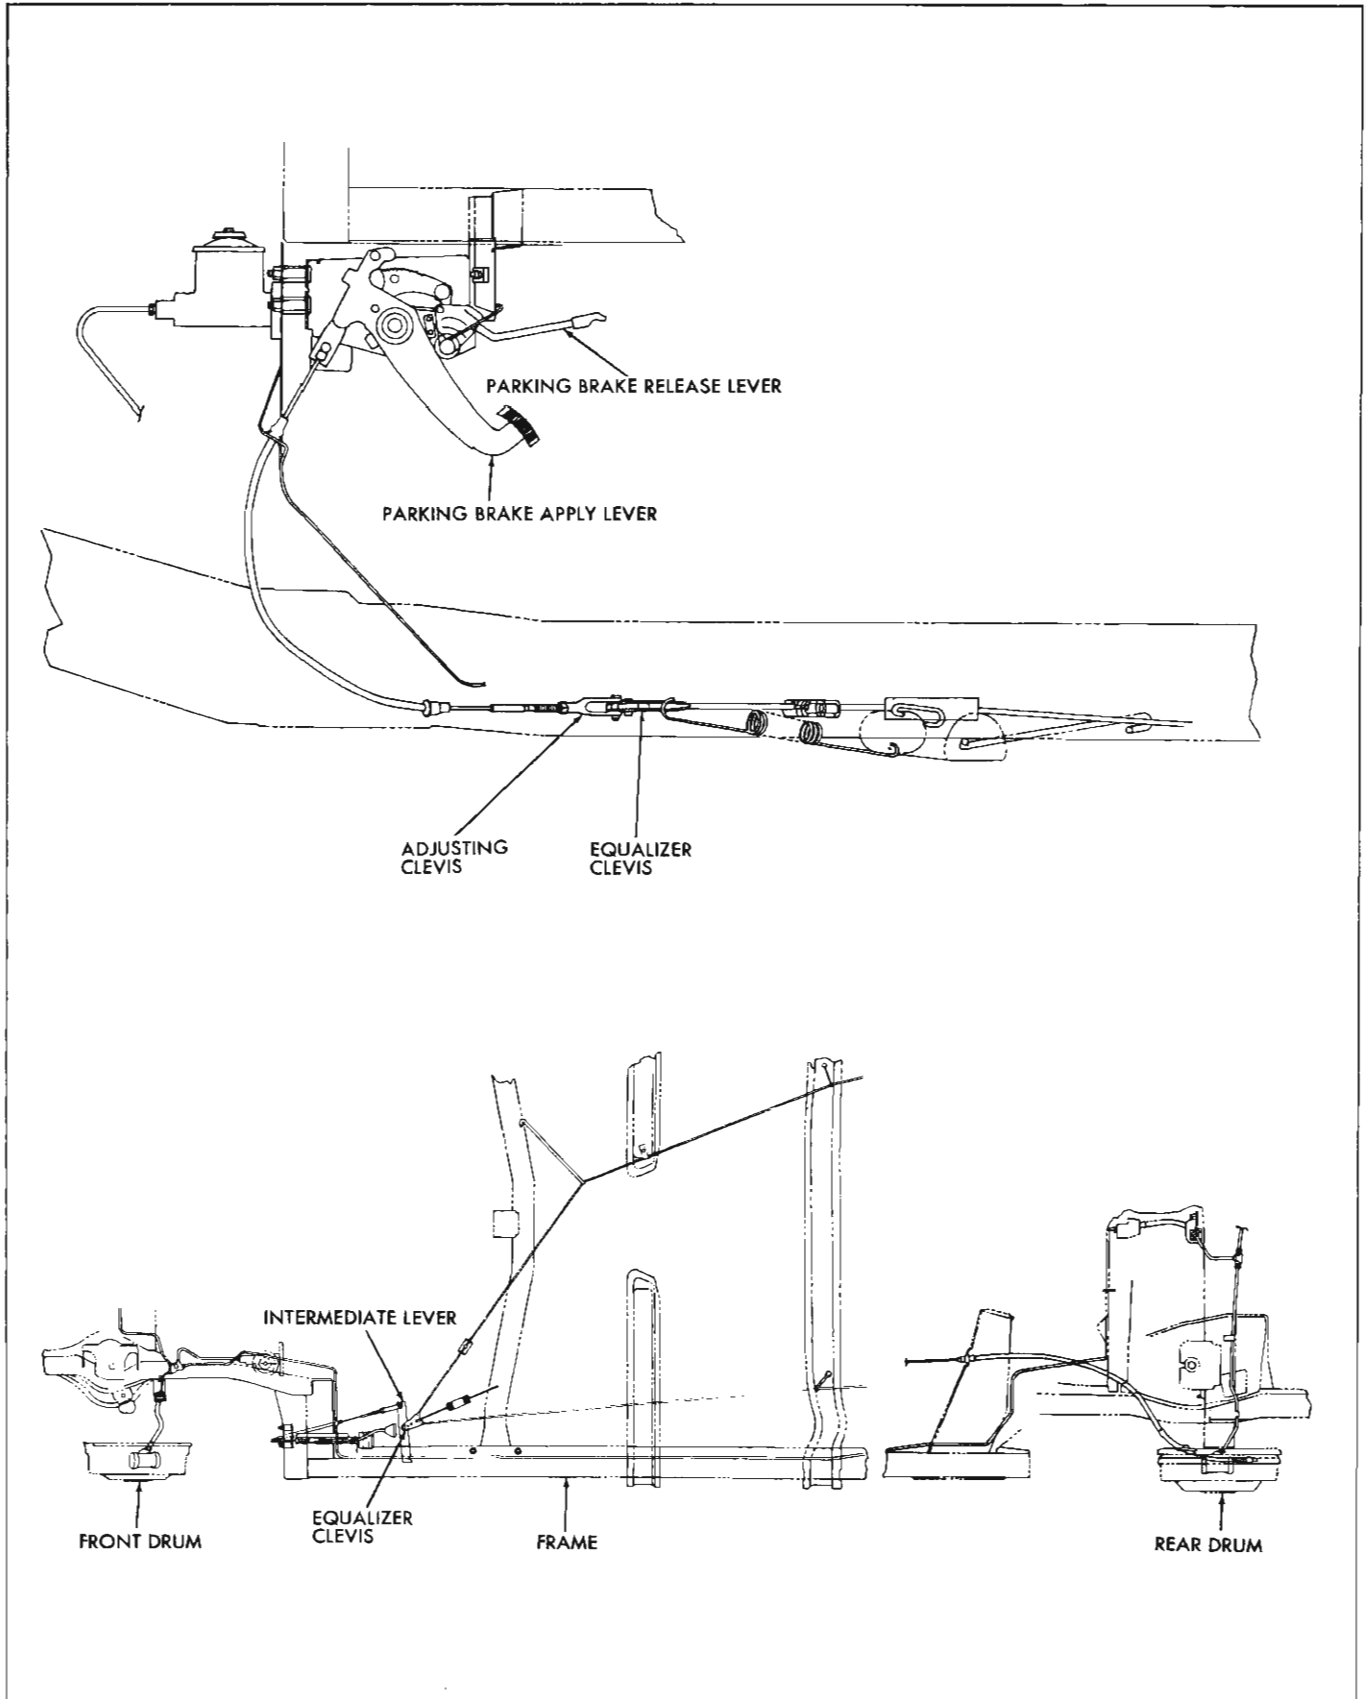

Fig. 5-5 Schematic Diagram of Parking Brake System
#### PARKING BRAKE (Fig. 5-5)
3. If equalization requires more than a few notches movement, retighten adjusting screw to point for proper adjustment of that brake and equalize rear cable by loosening the cable clamp screws at the equalizer clevis, and pulling downward on the tight side of the cable. It may be necessary to open the clamp with a screwdriver to allow the cable to equalize (Fig. 5-5).
5. Close adjustment for tension may be secured by adjusting the clevis at the rear end of the front cable. In adjusting here, be certain to turn clevis on or off cable end and do not twist the cable. Coarse adjustment is secured by selecting the correct hole in the equalizer (Fig. 5-5).